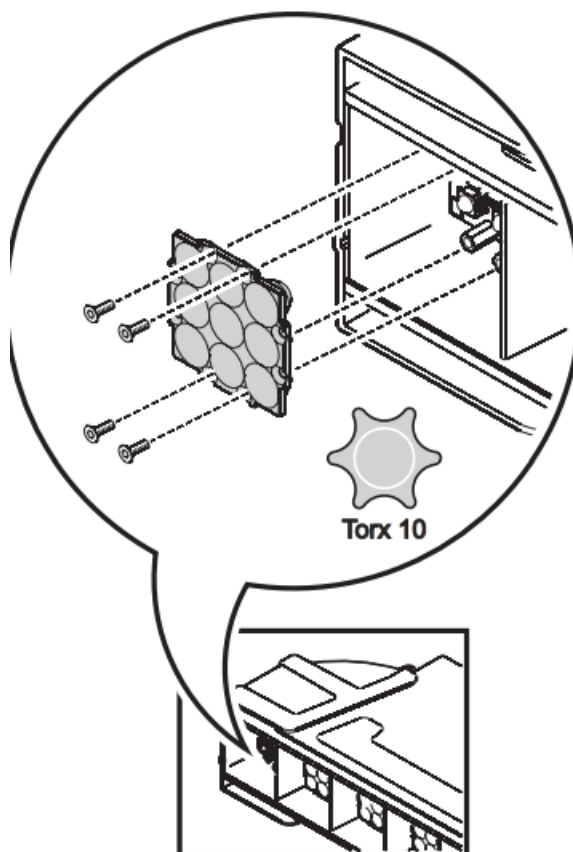

Figure 5: Lens removal
2. See Figure 5. Remove the four retaining screws from the lens sheet and lift the lens sheet off its mounting pillars. Keep screws and lens sheets for future use.